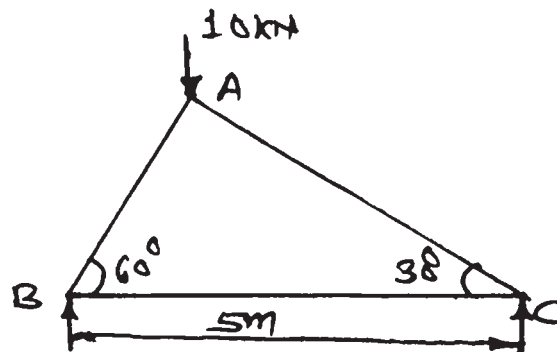

Fig. No. 3
- c) The truss ABC shown in Fig. No. 3 has a span of 5 meters. It is carrying a load of 10 kN at its apex. Find the forces in the member AB, AC and BC. Use method of joint.